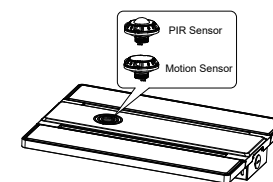

Figure 10
Step2. Twist-lock the DC sensor to the base to make it work properly, use a remote control to adjust the working mode as per demand.(Figure 10)